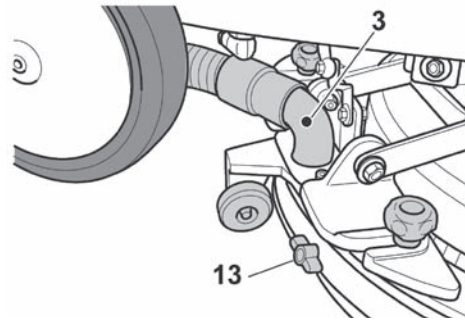

Fig 12
- Check that the connector (#3, Fig 12) on the squeegee is not blocked and that the hose is connected correctly.